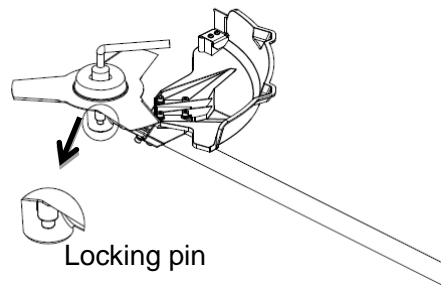
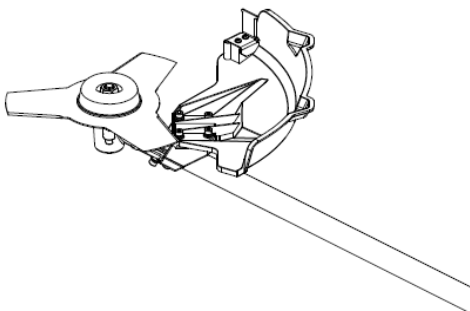

Fig. 7B
Fig. 7C
2. Press the locking pin and, at the same time, turn the nut clockwise with the wrench provided to assemble it. (Fig.7B/Fig. 7C)